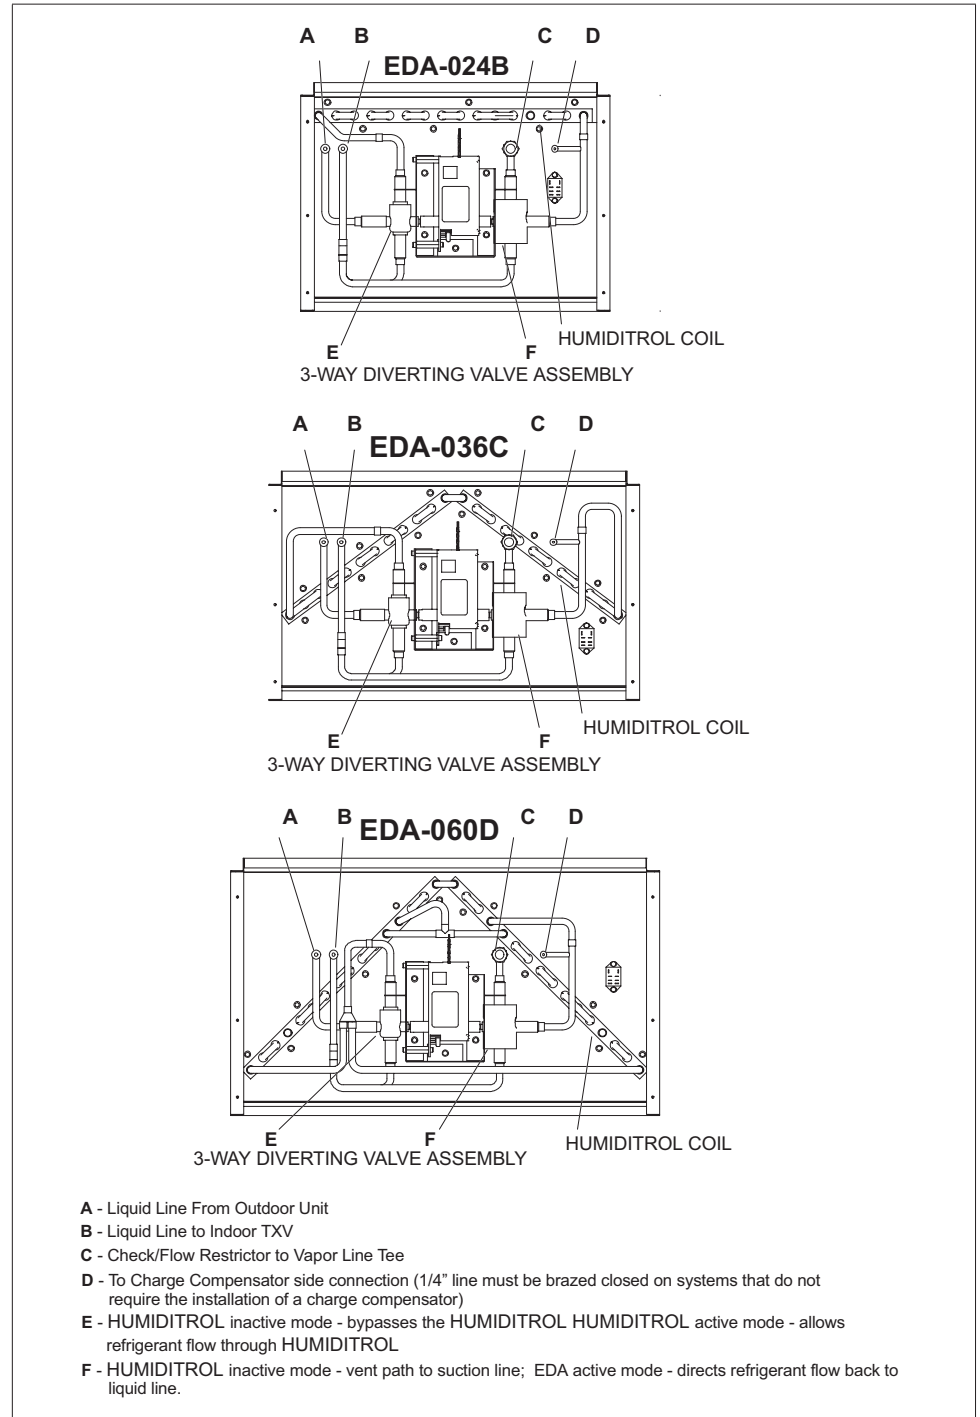

Figure 10. Humiditrol Unit Parts Arrangement
The first valve of the diverting valve assembly (figure 10, E) directs the flow of refrigerant to either bypass the Humiditrol coil (Humiditrol coil is inactive) or pass through the Humiditrol coil (Humiditrol coil is active). The second valve (figure 10 F) directs the flow of refrigerant back to the liquid line when the first valve (E) allows flow through the Humiditrol coil. When the Humiditrol coil is inactive, the second valve (F) provides a vent path to the suction line, draining the Humiditrol coil and charge compensator of liquid refrigerant.